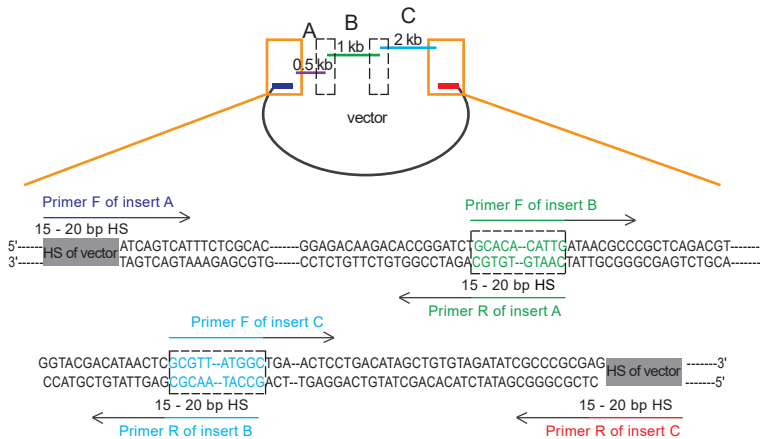

Fig 6. Primer Design for Multi-fragment Homologous Recombination
- b. **Introduce homologous sequences (15 - 20 bp) from 5' end of the latter fragment into 3' end of the previous fragment (as shown in Fig 6) ;**